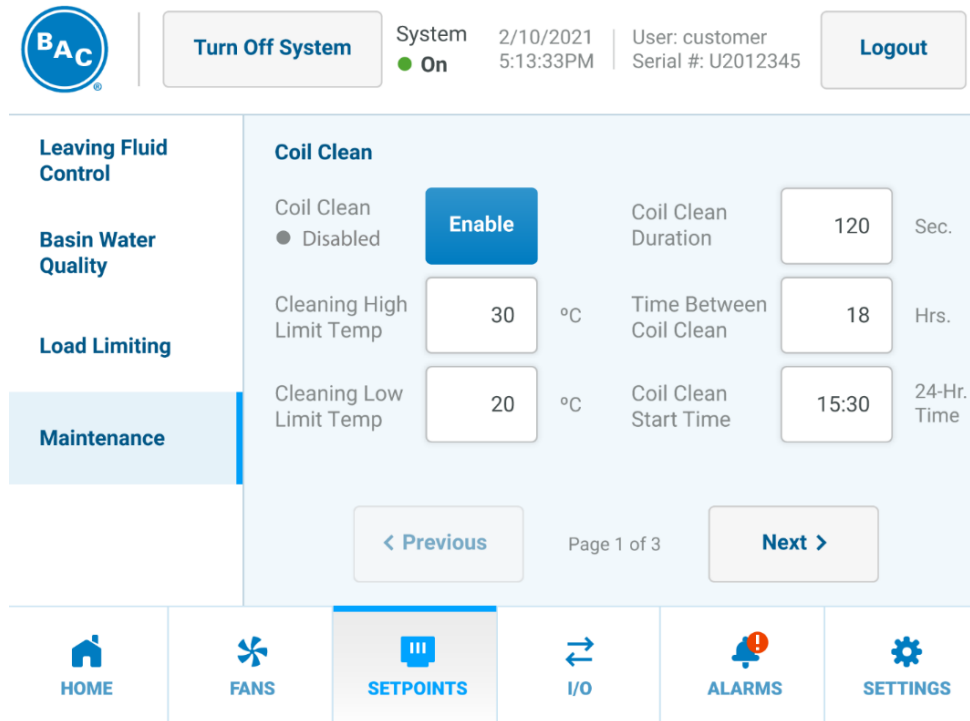

Figure 49. Setpoints Menu, Maintenance Page 1 of 3
- Coil Clean maintenance mode shown in **Figure 49** with parameters listed in **Table 17**.